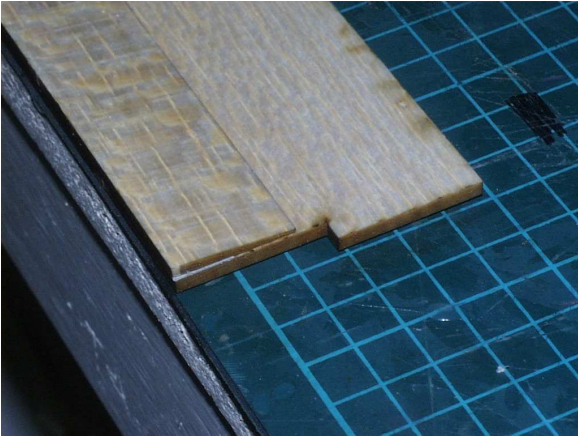

Figure 2.8: Elevator folded back
- Fold back the elevator (Figure 2.8)